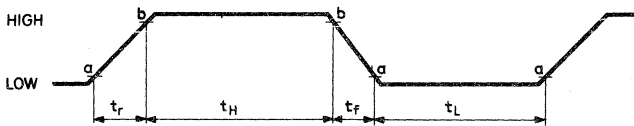

Fig.1
- t_f = fall time (transition from HIGH to LOW, see Fig.1)
- t_H = signal HIGH duration (Fig.1)
- t_L = signal LOW duration (Fig.1)
- t_r = rise time (transition from LOW to HIGH, see Fig.1)